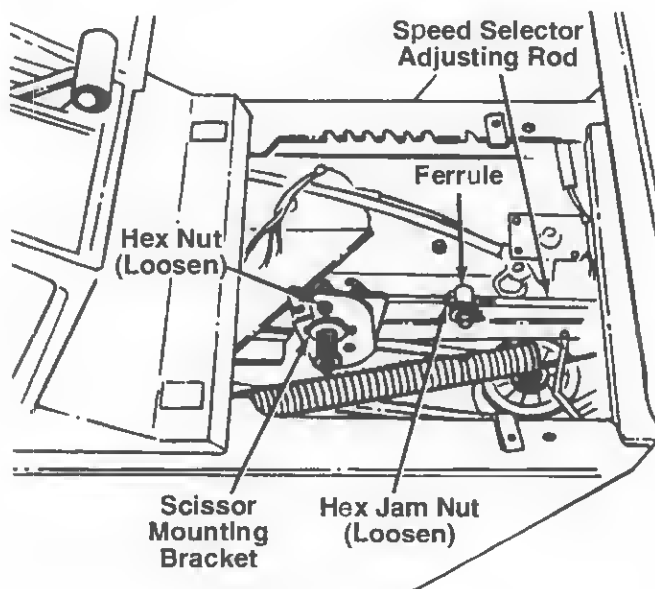

FIGURE 12.
3. Loosen the hex jam nut on the speed selector adjusting rod. See figure 12.
4. Loosen the hex nut on the scissor mounting bracket. See figure 12.